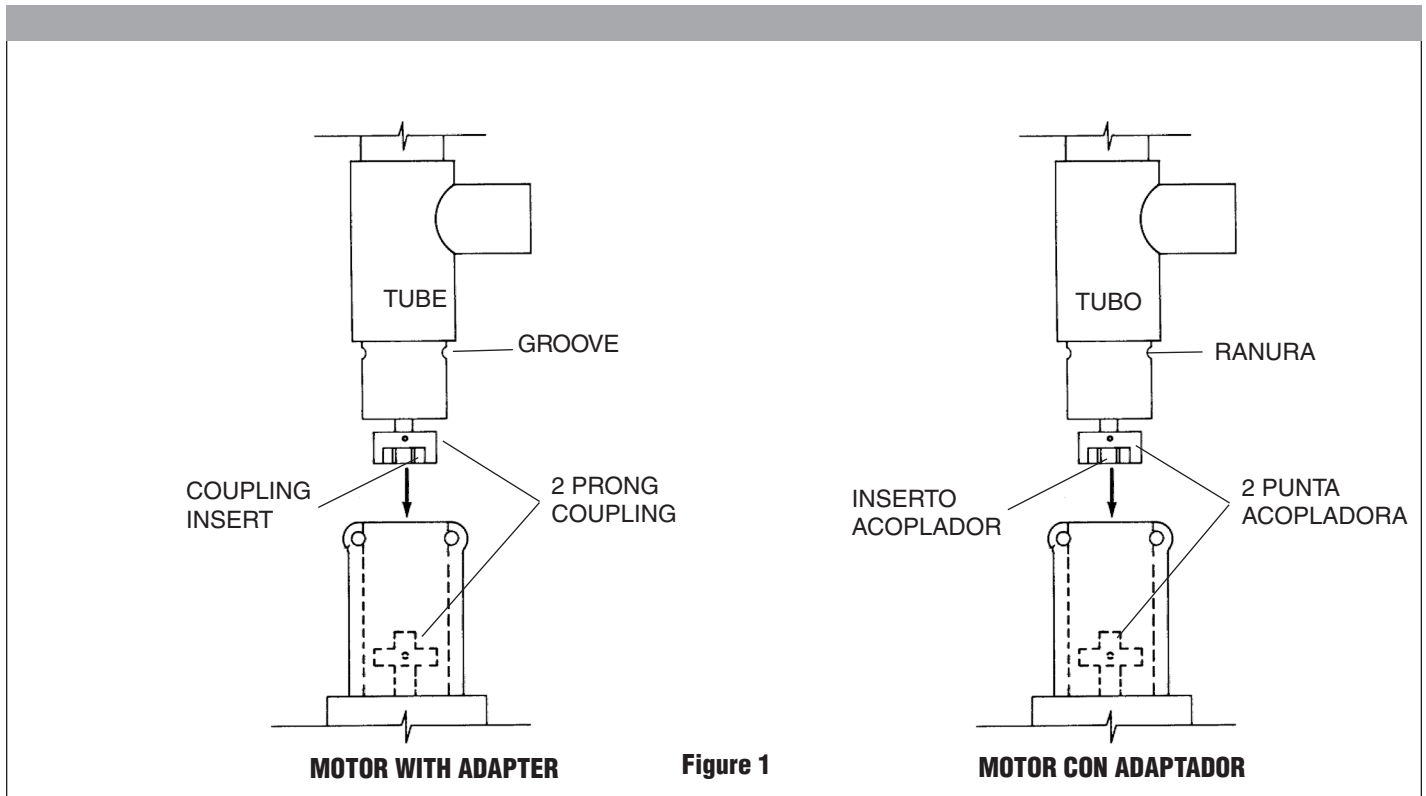

Figure 1
5. Slide pump/mixer down into motor until couplings mate and pump/mixer is seated properly. Refer to Figure 1.
1. Locate the rubber coupling insert that was separately shipped in a plastic bag (see Figure 1).